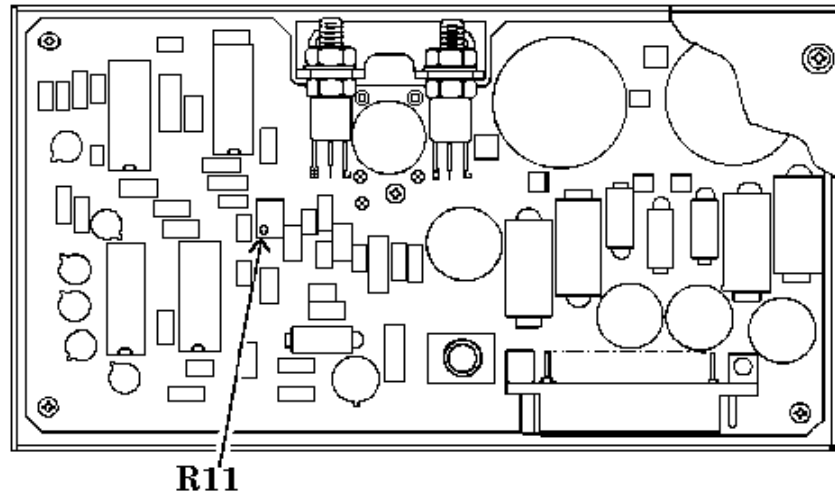

Figure 14. Power supply adjustment location.
- b. Adjustments.** Connect digital voltmeter to control box TJ 11 and adjust R11 (fig. 14) for a digital voltmeter reading between 11.99 and 12.01 V dc (R).